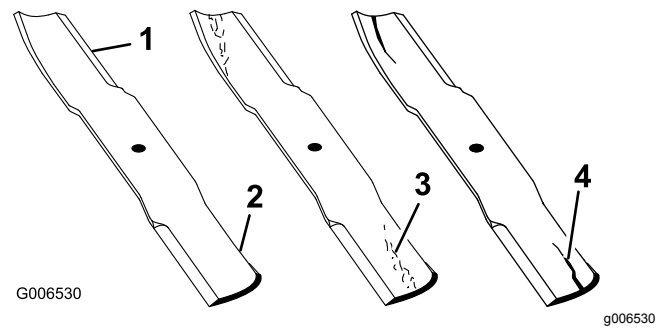

Figure 32
2. Examine the cutting ends of the blade carefully, especially where the flat and curved parts of the blade meet (Figure 32). Since sand and abrasive material can wear away the metal that connects the flat and curved parts of the blade, check the blade before using the machine. If you see wear (Figure 32), replace the blade; refer to Removing and Installing the Blade\(s\) (page 21).
If the blade is allowed to wear, a slot will form between the sail and flat part of the blade (Figure 32). Eventually, a piece of the blade may break off and be thrown from under the housing, possibly resulting in serious injury to yourself or bystanders.